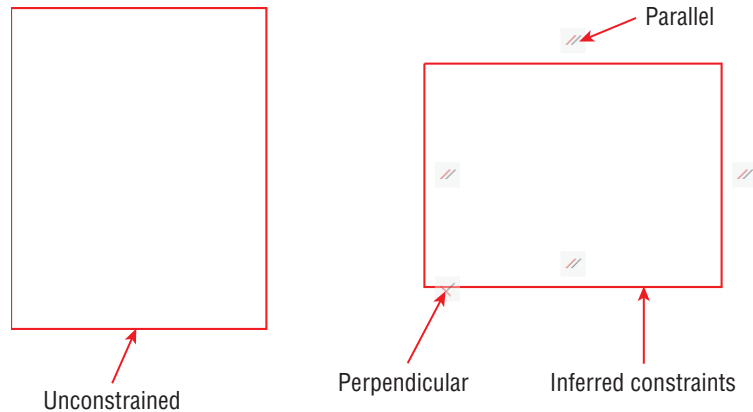

FIGURE 12.1 Drawing two rectangles, one unconstrained
4. Press the spacebar to repeat the RECTANG (for Rectangle) command, and then click two more points to draw another arbitrarily sized rectangle adjacent and to the right of the first one (see Figure 12.1). AutoCAD automatically infers perpendicular and parallel constraints from the geometry of the second rectangle.